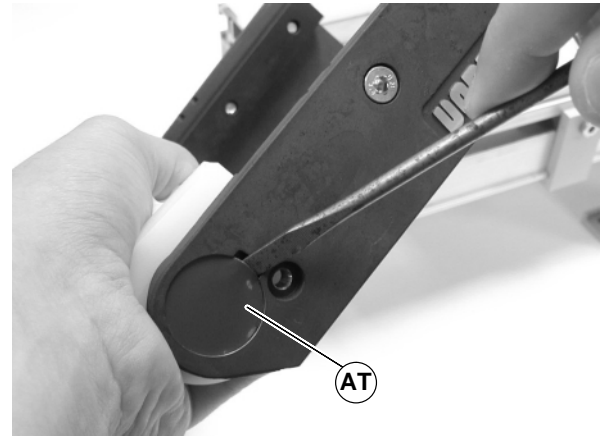

Figure 36
- Remove bearing cover (AT of Figure 36) from side opposite of drive shaft.